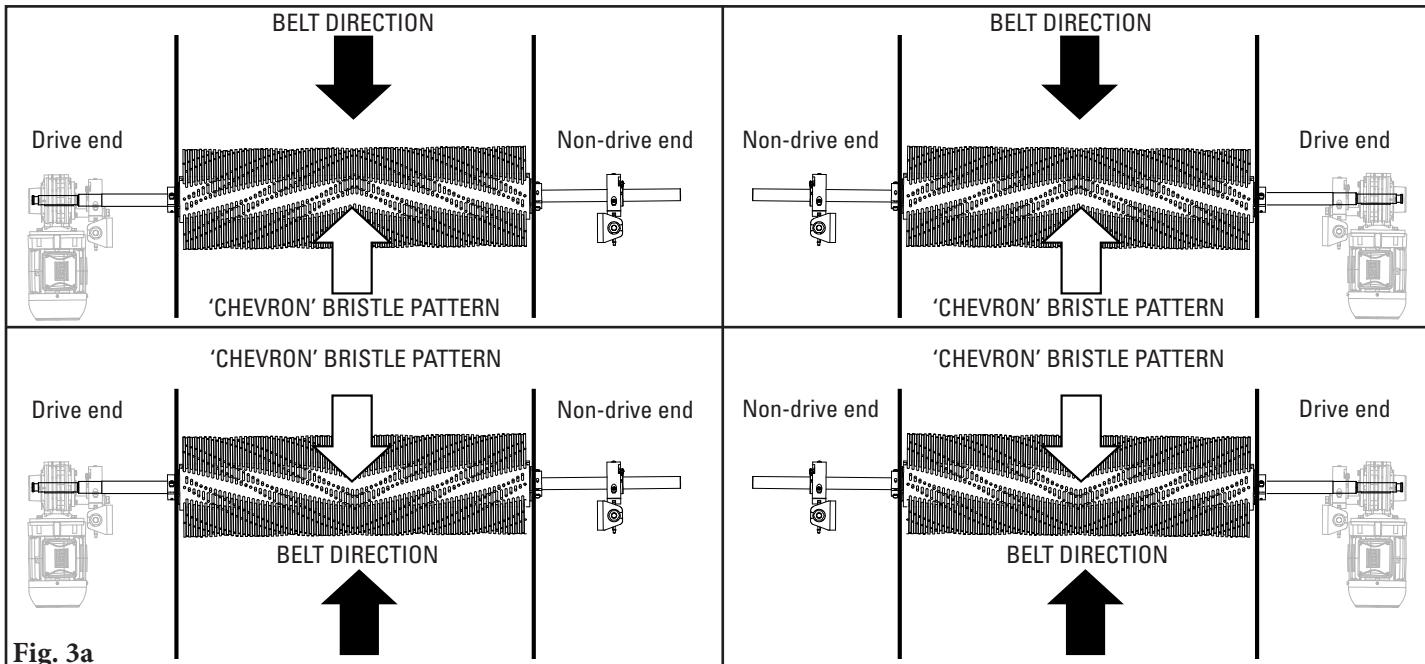
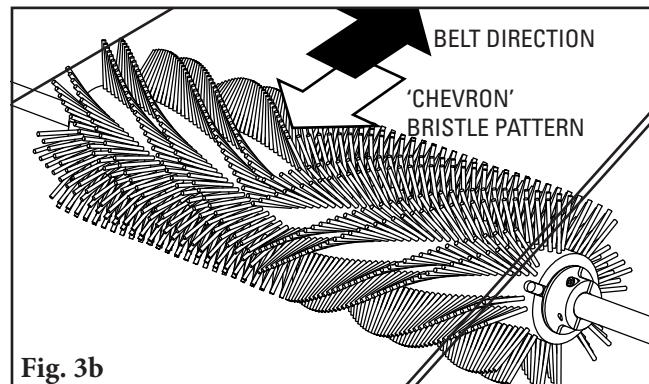
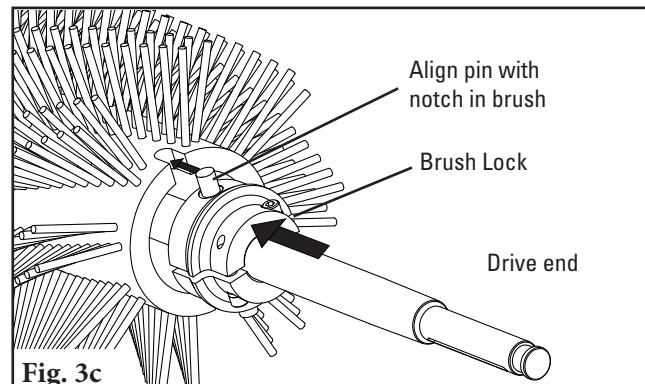

Fig. 3a
Fig. 3b
Fig. 3c
- 3. Assemble brush to shaft.** Determine which side of the conveyor the motor will go on. The drive end of the shaft must be located on this side (drive end detail shown in Fig. 3c). Choose appropriate motor/brush configuration from the diagrams below (Fig. 3a). Slide brush onto shaft per selected configuration. **NOTE:** ‘Chevron’ bristle pattern should be pointing against the direction of belt travel (Fig. 3b). Then slide a brush lock on each end of the shaft and into end of the brush, aligning pins on brush lock with notches in the brush (Fig. 3c).